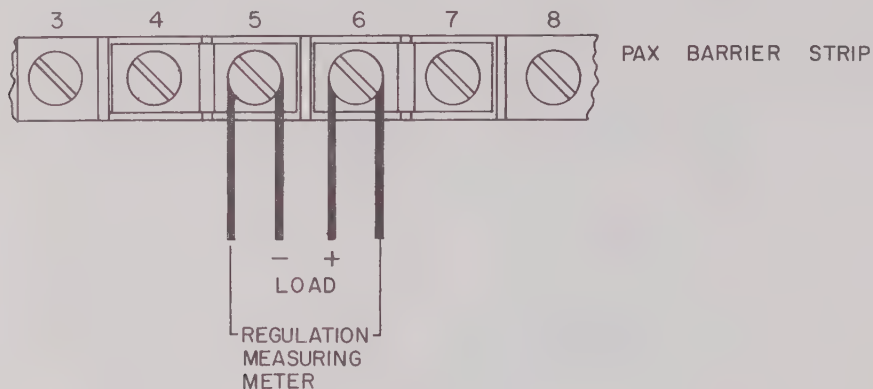

FIG. 5-4 APPROXIMATION OF A FOUR TERMINAL NETWORK
- b) The Four-Terminal Network is an essential device for precise measurement of regulation. It can be approximated by the method shown in Fig. 5-4.